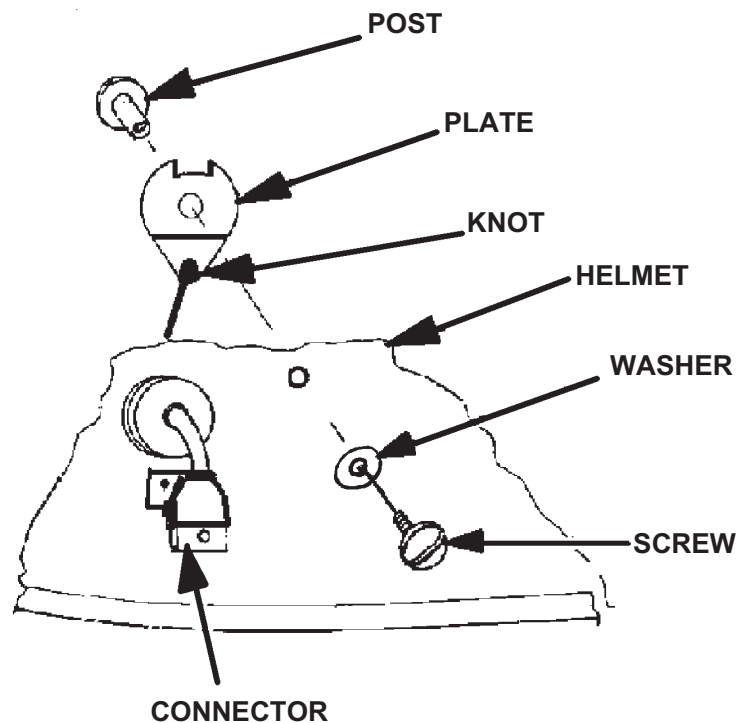

Figure 4-19. Communications Assembly
7. Referring to Figure 4-19, retie the strain relief plate to the communications cord in the same manner in which the cord was originally tied.